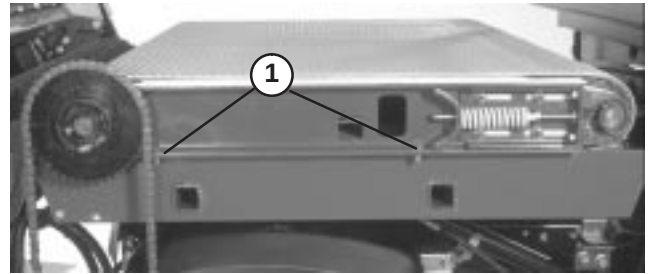

Figure 31
6. Loosen (2) capscrews, washers and nut, on right side of machine, securing slider bed to frame (Fig. 31). Make sure fasteners are loose enough to allow slider bed to be tipped.